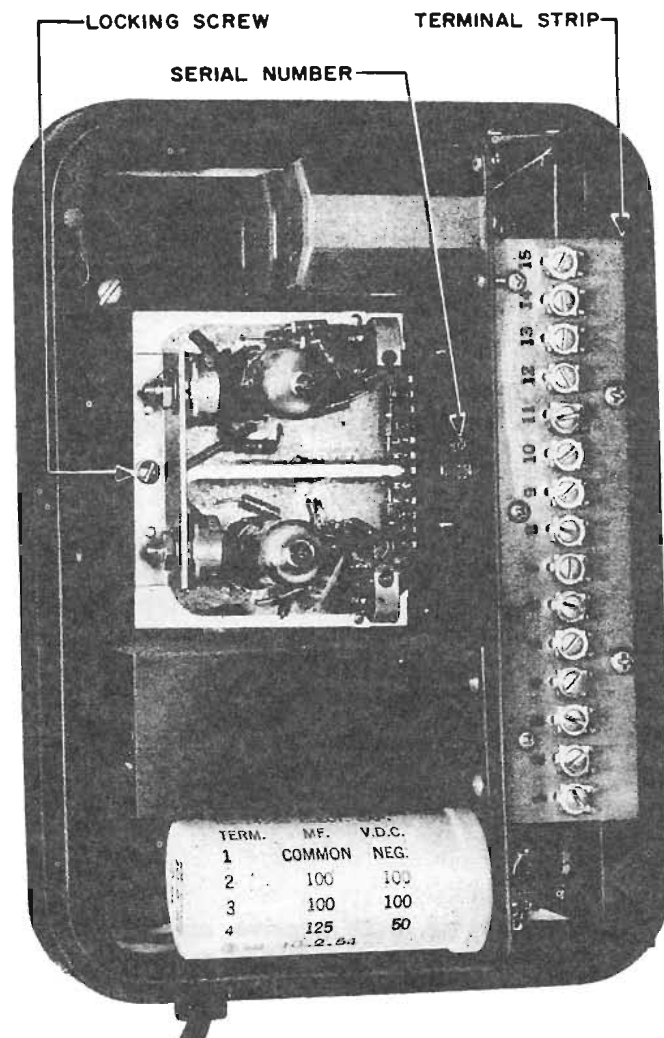

Fig. 4 — KS-14964, List 2 Control Unit
- The amplifier is held in place by a screw when used with the KS-14964, List 2 control unit (see Fig. 4).